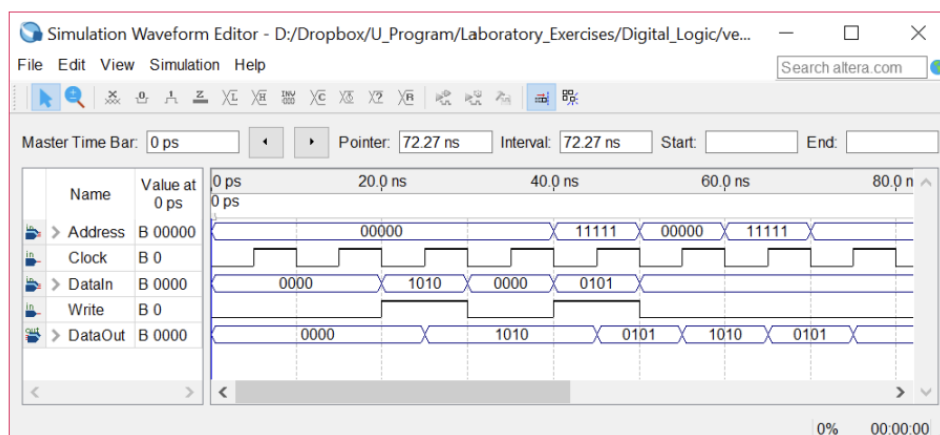

Figure 4: An example of simulation output.
4. Simulate the behavior of your circuit and ensure that you can read and write data in the memory. An example simulation output is given in Figure 4.